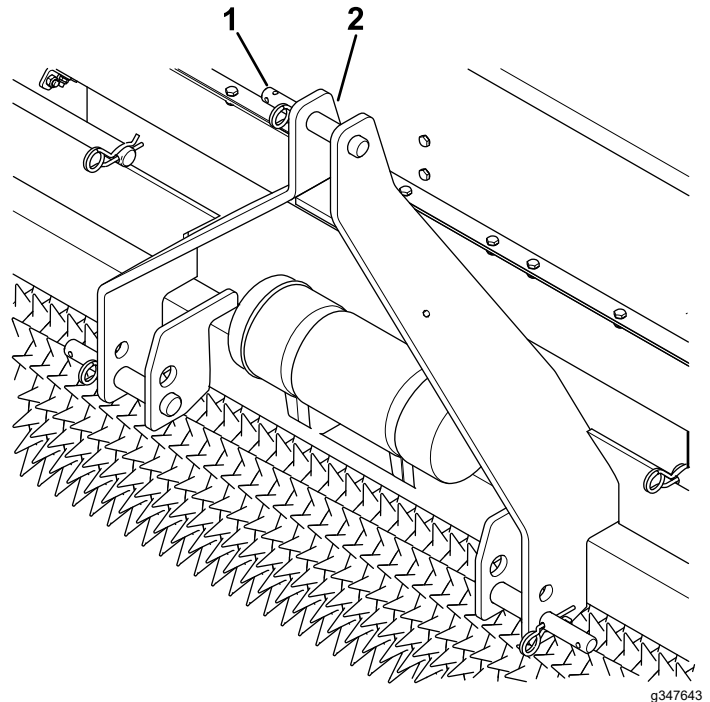

Figure 5
2. Remove the hairpin cotters from the hitch pins (Figure 5).